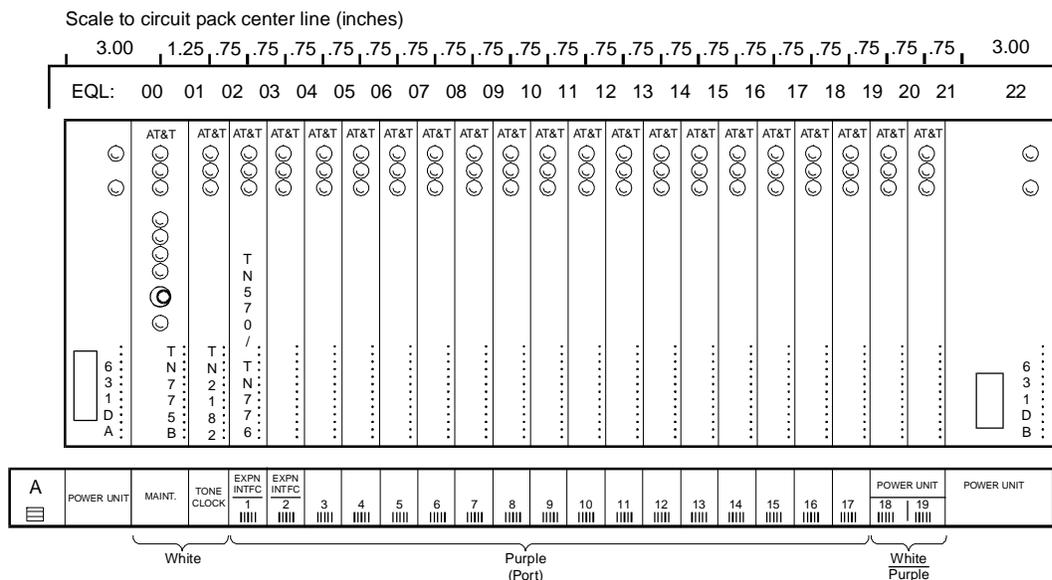

Figure 7-41. Circuit-Pack Locations in G3i V4 Expansion Control Carrier
1. See WARNING and NOTE. Install the new G3i V4 control circuit packs into carriers "A" and "B." See Figure 7-41. The new decal, and the annotated "list configuration all" (provided with the G3i V4 translation memory card) as a guide.